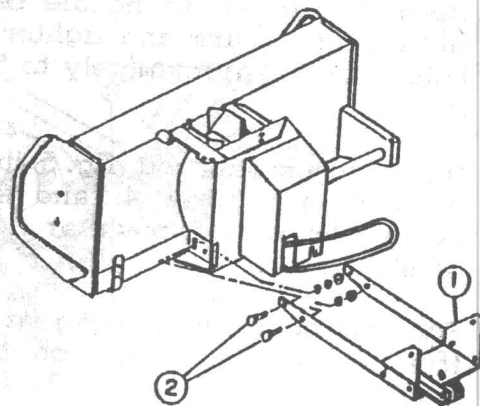

FIGURE 4
- h) Insert push frame assembly (fig. 4, item 1) in snowblower assembly and fix in place using four $7/16 \times 1 1/4$ " bolts (item 2). Secure the two bolts closest to collector housing with flatwashers, lockwashers and nuts and secure other bolts with lockwashers and nuts. do not tighten yet.